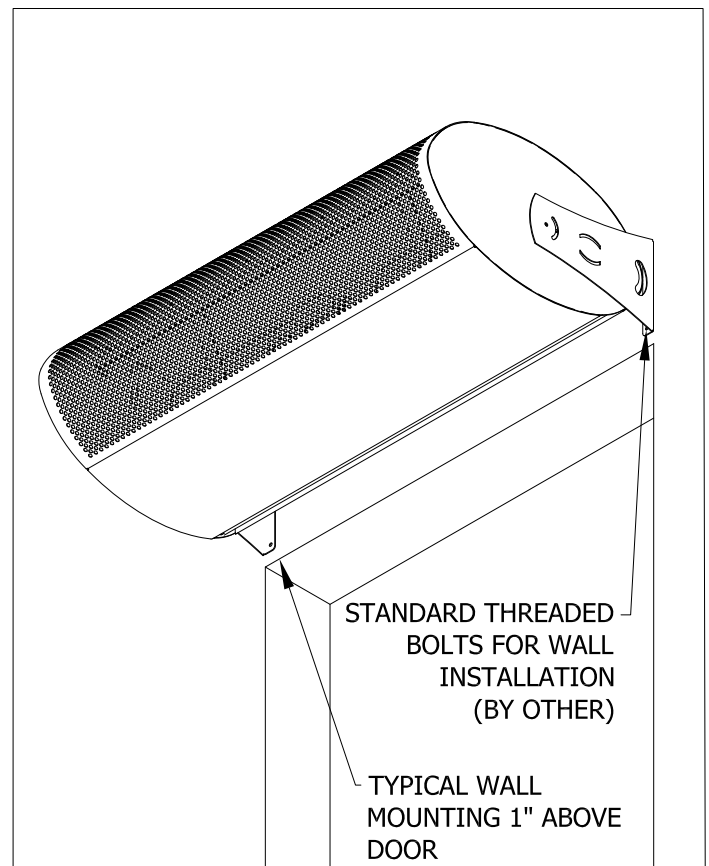

FIG. 1
4. Wall mounting brackets with (3)  $\frac{1}{4}$ " mounting holes on each bracket are provided for your convenience. These holes must be utilized to secure the product to the wall or ceiling. For ceiling mount, rotate the wall mounting bracket 90° to point upwards. Threaded rods to be bolted to these  $\frac{1}{4}$ " holes. All hardware is field provided by others.
5. Mount the product such that the discharge is 1" above the opening and all obstacles. (FIG. 1)
6. Use four (4) threaded rods for overhead installation or four (6) threaded bolts for wall installation. All hardware is field provided by others. (FIG. 1)